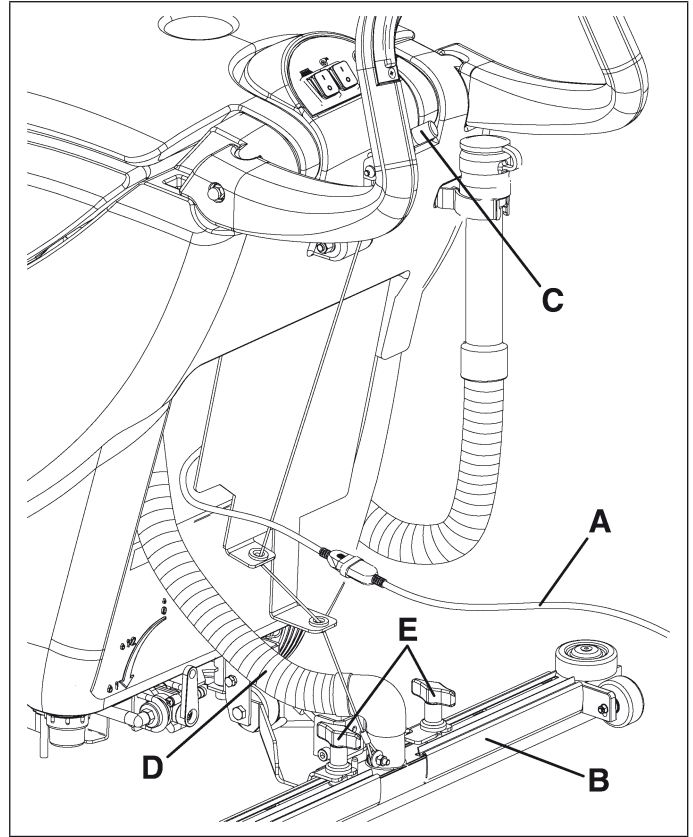

Figure 16
1. Make sure that the power supply cable (A, Fig. 16) is disconnected from the electrical mains.
2. Lower the squeegee (B, Fig. 16) by means of the lever (C).
3. Disconnect the vacuum hose (D, Fig. 16) from the squeegee.
4. Loosen the squeegee knobs (E, Fig. 16) and remove the squeegee (D).
4. Reinstall the squeegee (B, Fig. 16) and screw down the squeegee knobs (E).
5. Connect the vacuum hose (D, Fig. 16) to the squeegee (B).